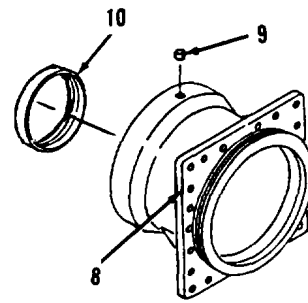

Figure 5-129.
5. Remove plug (9) and seal (10) from outer housing (8, Figure 5-129).